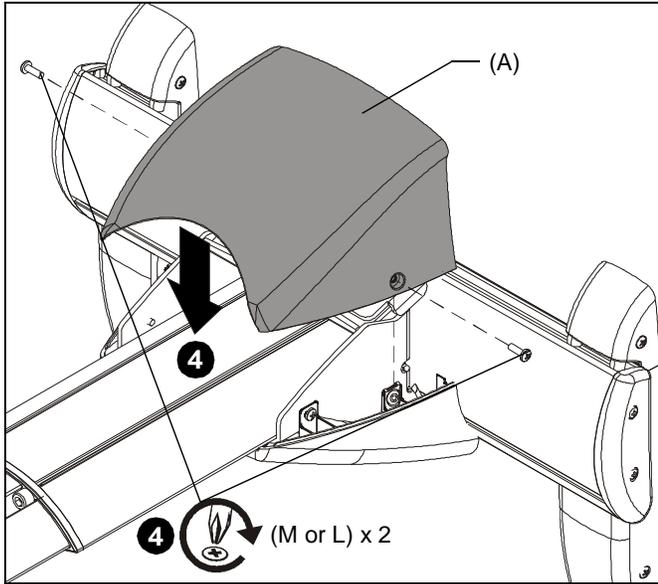

Figure 8
- Lower the upper cover (A) onto the wall mount and interactive cover (B), and fasten with two 8-32 x 3/8" Phillips pan head screws (M) [or use two 8-32 x 3/8" security button head screws (L)]. (See Figure 8)